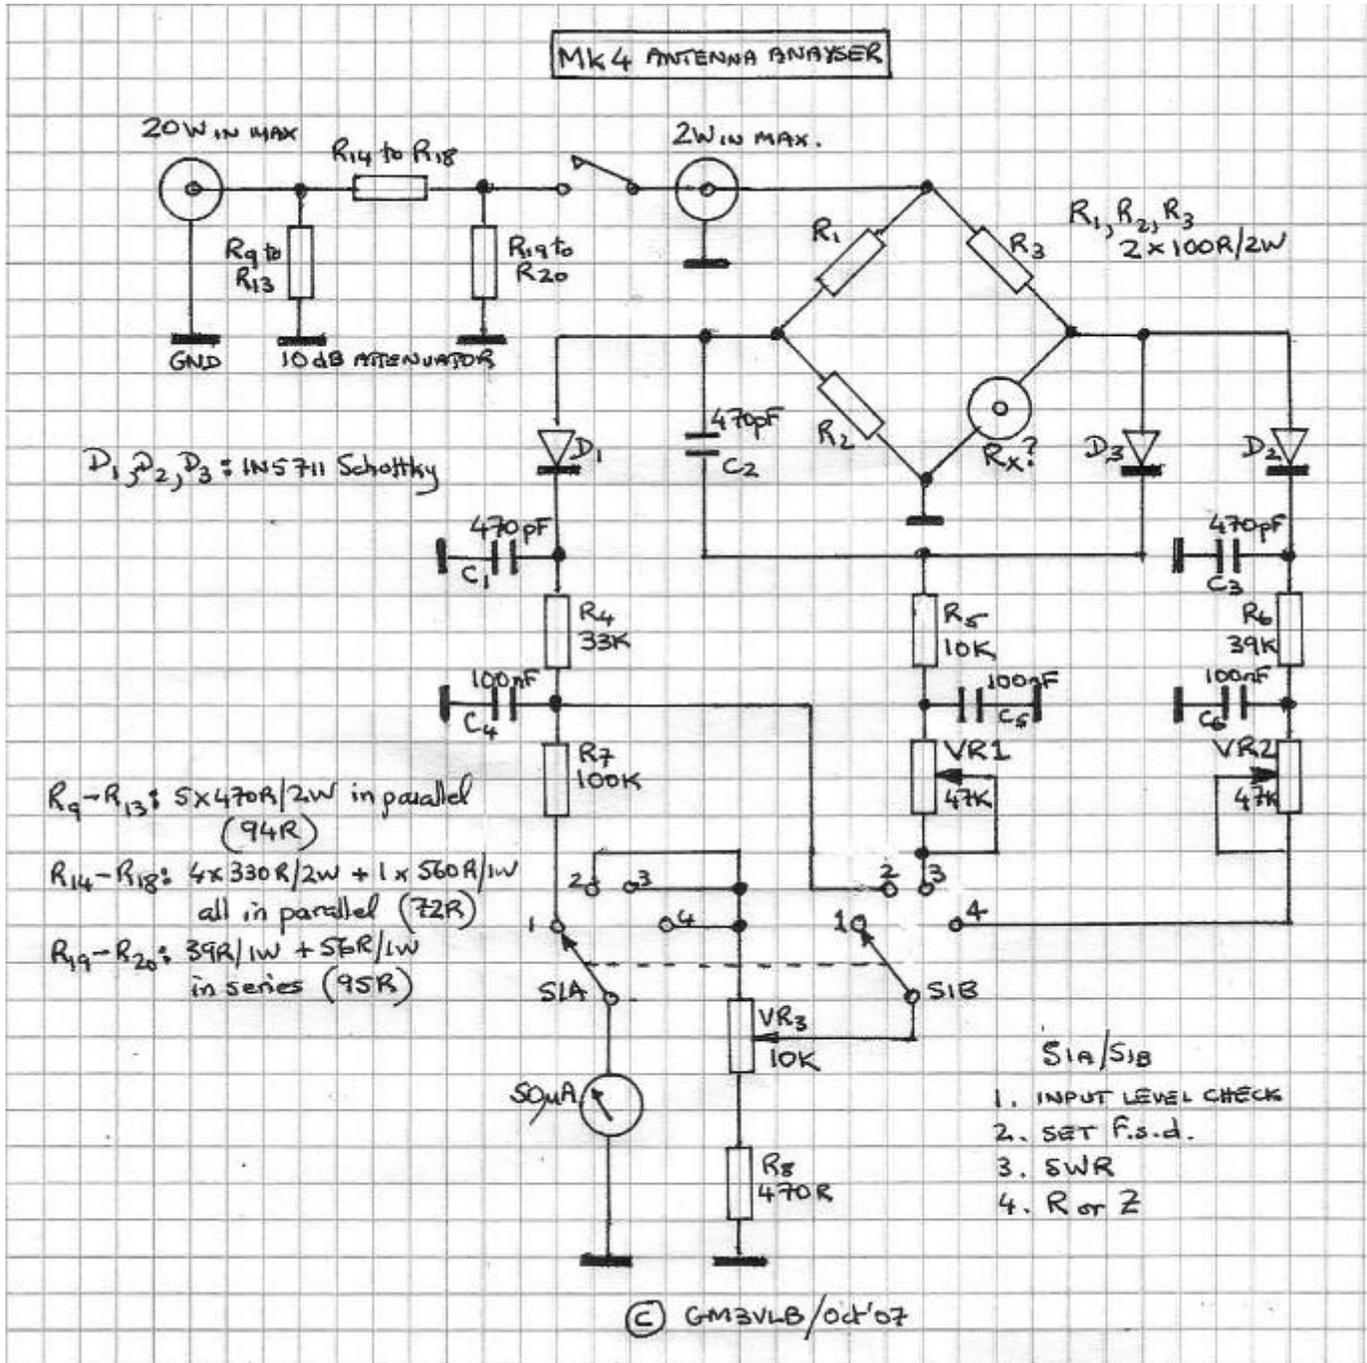
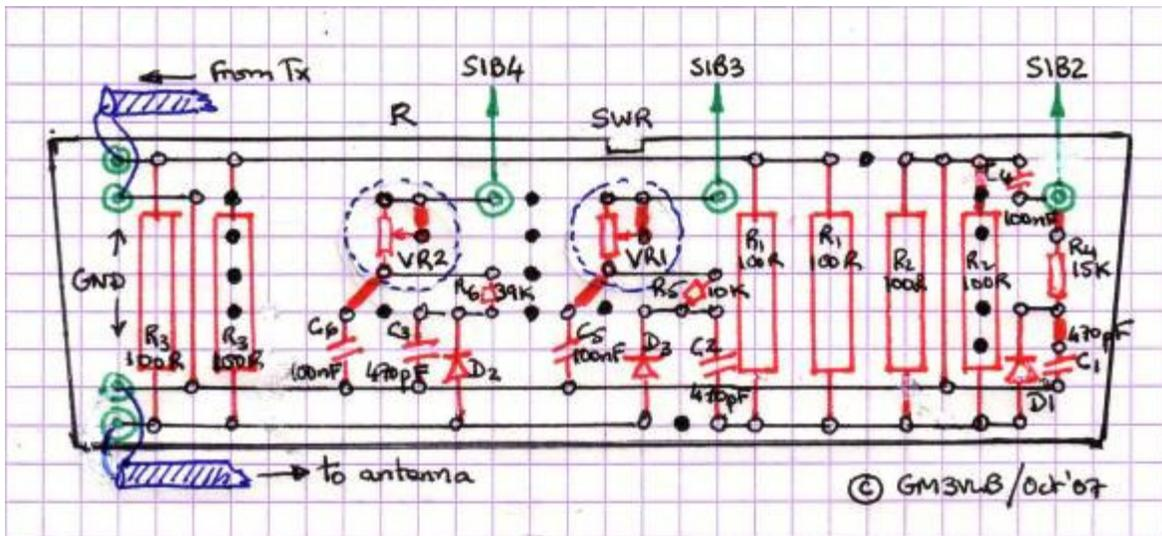
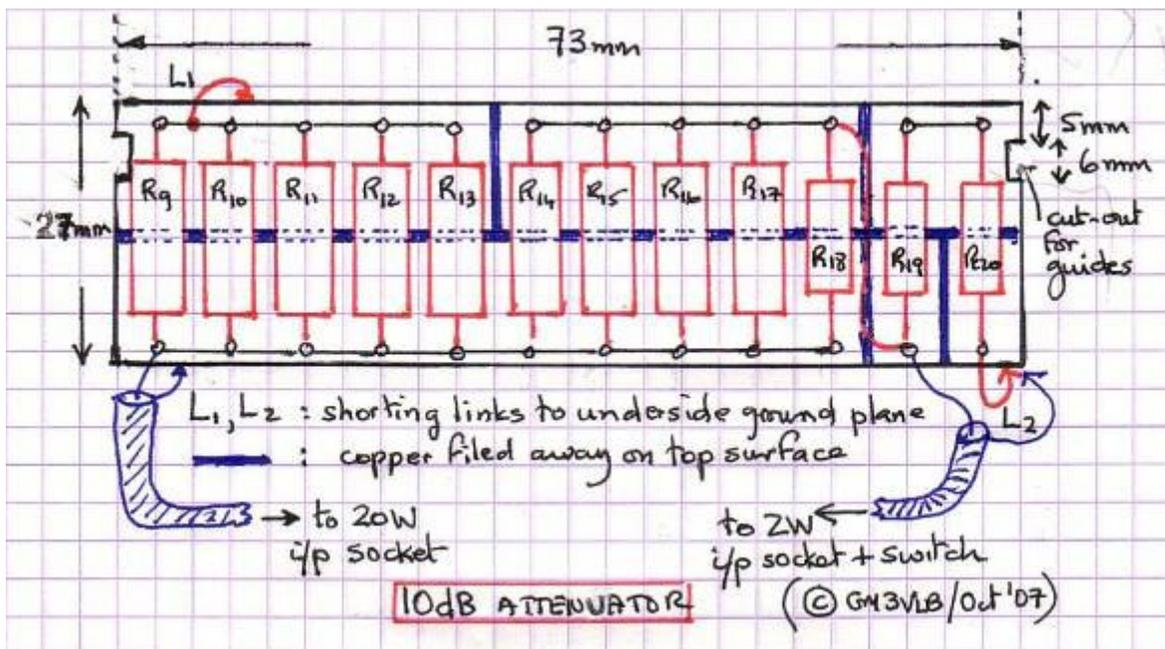

Fig.2
Fig.3
Fig.4
In the circuit diagram (Fig 2) below, resistors R9 to R20 form a Π -pad 10dB attenuator (2). Two inputs to the bridge are available. When the “HIGH” input (20W max.) is selected (transceiver input to “HIGH I/P” and switch closed), the signal passes to the bridge via the 10dB attenuator which reduces the power by a factor of 10. When the “LOW” input is used (2W max.), the signal is fed directly to the bridge.
Over many years managing ‘O’Level Electronics projects in schools, I developed (as mentioned in Part 1), my own “Veroboard” assembly method which has worked well for both simple and more complex projects. The layout of the main board is shown in Fig.3 below. A slight variation of the technique, using double-sided PCB was used for the construction of the 10dB attenuator (Fig.4).
A slight variation of this “Veroboard technique”, using double-sided PCB was used for the construction of the 10dB attenuator (Fig.4 below).
Those with basic skills such as the ability to use a soldering iron, identify different components on the relatively simple circuit diagram (Fig.2) and mount them on Veroboard (Fig.3 and Fig.4) or other preferred method, should have no problem constructing this “analyser”. If you are confident doing basic, repetitive calculations using a calculator, a more accurate method for producing the “SWR” and “R” scales is described in Part 3. It is not necessary to fully understand the preceding theoretical discussion – you can simply use **equation (4) for “SWR”** and **equation (6) for “R”** Either way, it should be possible to build this most useful instrument for under £20. All parts are readily available. One word of advice...avoid cheap, “VU-meter” type meters. It is possible to use them, but their non-linear scales cause additional, unnecessary complexity. Rallies are a good source of quality alternatives. I have *a few* brand new, military-quality linear Russian 50µA meters, complete with re-calibrated scales, available for **£15** (inc. P&P). Finally, for those who might perhaps wish a bit more understanding of “*how the thing works*”, I shall describe the theory behind this instrument in a bit more detail in Part 3.